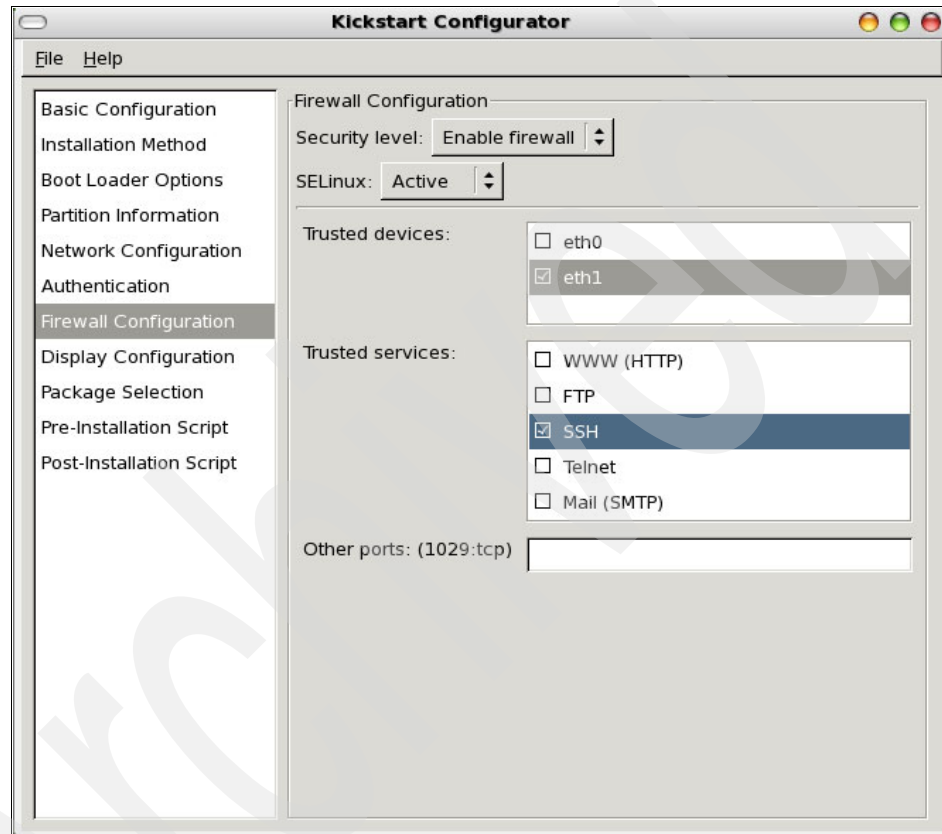

Figure 8-27 Firewall Configuration panel (©2008 Red Hat, Inc.)
7. Figure 8-27 shows the Firewall Configuration panel. As an example, a good practice is to enable SSH and to trust interface eth1, at the very minimum to access the system later using the network.